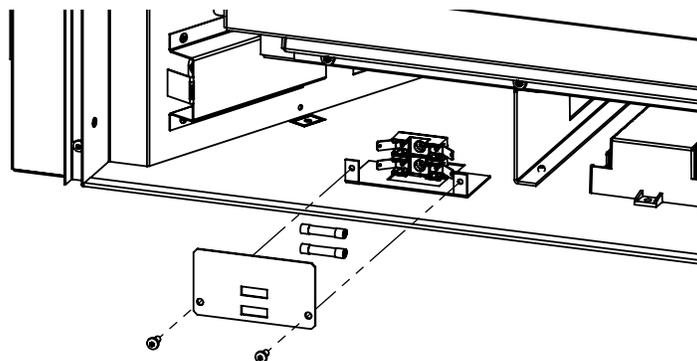

Figure 23. Fuse Removal
3. Remove the fuse cover by removing the two T-20 screws (see Figure 23).
4. Remove either fuse by removing the two T-20 screws (see Figure 23) if they appear damaged.